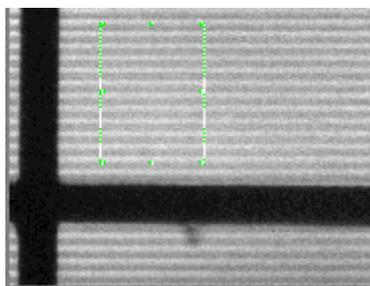

Figure 2
5. It is critical for the correct function of the ApoTome that the grid lines of the ApoTome are exactly horizontal (Figure 2). It should not be necessary to re-adjust the camera unless it has been moved or replaced. If necessary the camera can be rotated to align the grid image by releasing the screws holding the camera mount and rotating it until the lines are horizontal.